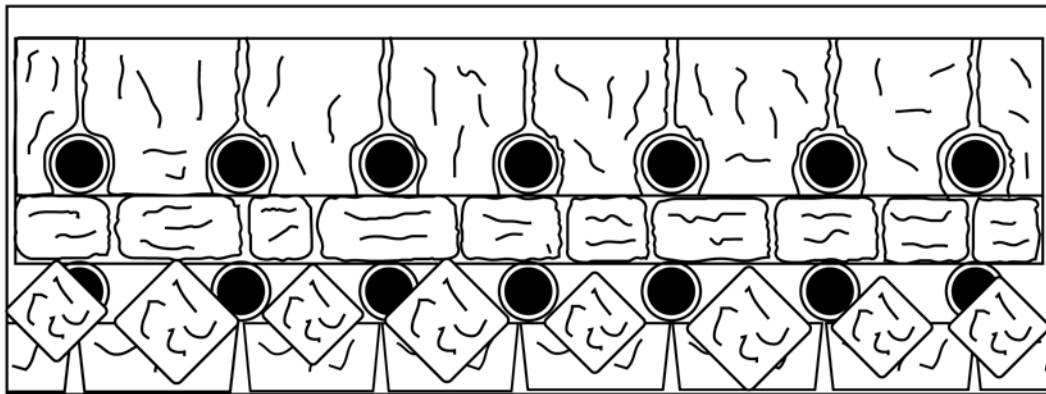

Figure 11.
- 3** Place the 2 front matrix in front of the rear matrix. Ensure that the front matrix touches the rear matrix. The smaller of the two front matrix is located on the left side and the larger front matrix is located on the right side. See Fig 11.